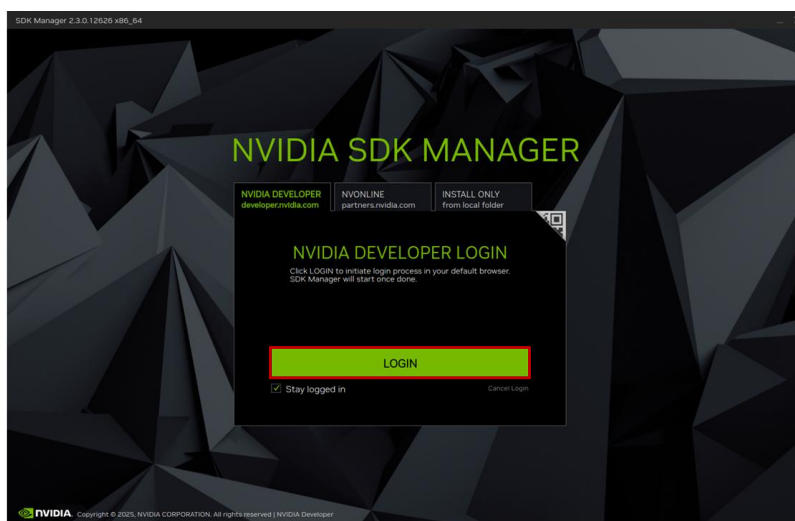

Figure 6.15. SDK Manager Login
- After the SDK Manager is launched, click Login as shown in Figure 6.15. A browser window will open, where you will sign in using your NVIDIA Developer account credentials.